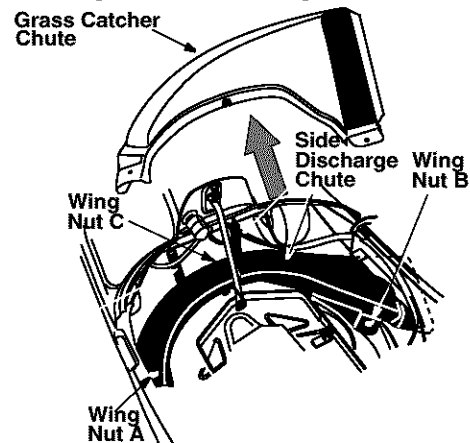

Figure 2
3. Remove the two wing nuts (A and B in Figure 2) from two ends of the grasscatcher chute.
4. Loosen the wing nut (C in Figure 2) in the middle of the chute. Do not remove.